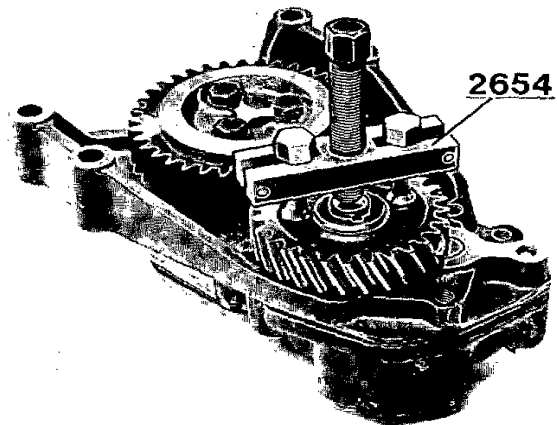
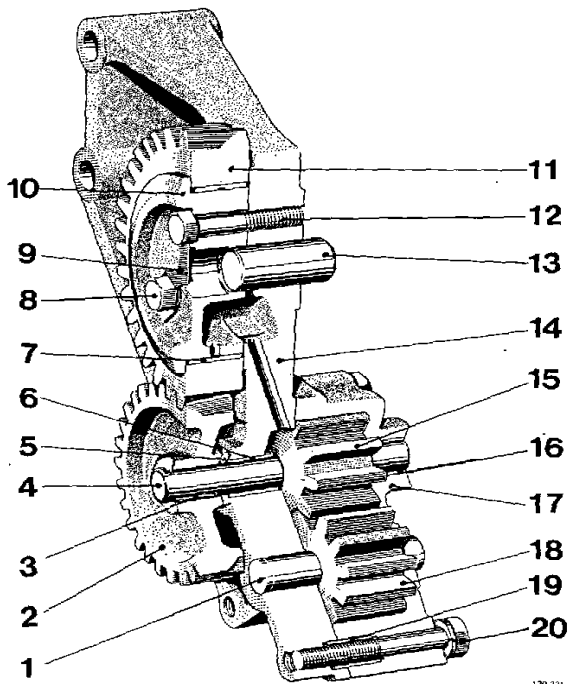
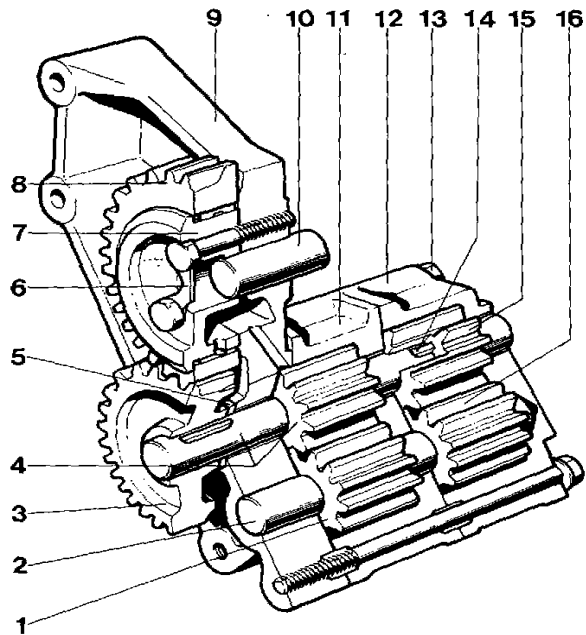

Fig. 104. Removing the drive gear
Fig. 105. Lubricating oil pump
Fig. 108. Lubricating oil pump. Engines with shallow sump for large inclinations.
The oil pump (fig. 105) is of the gear type. The pump sucks oil through the strainer and suction pipe to the suction side.
1. Pull off the drive gear with puller 2654 (fig. 104). Remove the key and the axial washer (5, fig. 105) from the shaft.
2. Remove the idler gear (11). The gear is held in position by three bolts and journalled on a bearing sleeve.
3. Unscrew the attaching bolts for the pump housing (17) and remove the housing.
Ream the new bushings to a close running fit (16.016–16.034 mm = 0.6305–0.6313"). Before reaming, bolt the housing and bracket together so that they are centered by the guide sleeves (19, fig. 105).
3. Fit the drive spindle (4, fig. 105) with its gear in the bracket.
4. Fit the axial washer (5) on the shaft journal (a new axial washer is included in the repair kit). Fit the key and press on the outer drive gear.
2. Remove the idler gear (8, fig. 108). The gear is held in position by three bolts and is journaled on a bearing sleeve.
3. Pull off the drive gear (3) with puller 2654 (fig. 104). Remove the key and the axial washer (5, fig. 108) from the shaft.
4. Remove the attaching bolts (13) holding the pump housings. Remove the bracket (9), the idler gear shaft (2) will accompany it. If the pump housing remains in position at the bracket, it can be pressed out using two 5/16" bolts.
5. Remove the discharge pump idler gear (1). Press out the shaft (2) if it has to be replaced.
6. Remove the scavenging pump housing (12) by prising with a chisel, in the machined grooves between the discharge and scavenging pump. Remove the scavenging pump idler gear (16).
7. Place some kind of support under the front end of the discharge pump and press the shaft out with the discharge pump drive gear (4) about 2.5 mm (0.1"). **NOTE!** If the shaft is pressed further, the key (14) will go against the pump housing.
4. Place the axial washer (5, fig. 108) on the shaft journal. Fit the key and press on the outer drive gear (3). **NOTE!** There must be a clearance of 0.02–0.08 mm (0.0008–0.0032") between the axial washer and gear. A feeler gauge of 0.05 mm (0.002") should be inserted in the clearance when assembling.
5. Fit the idler gear (1) and the discharge pump housing.
6. Fit the key for the scavenging pump gear (15) and press on the gear. **NOTE!** In order to obtain the correct clearance between the drive gear (15) and the discharge pump housing (11), a feeler gauge of 0.05 mm (0.002") should be inserted in the clearance when assembling.
7. Fit the idler gear (16) and the scavenging pump housing. Tighten the pump housings at the bracket. Check that the pump can be easily turned round by hand.